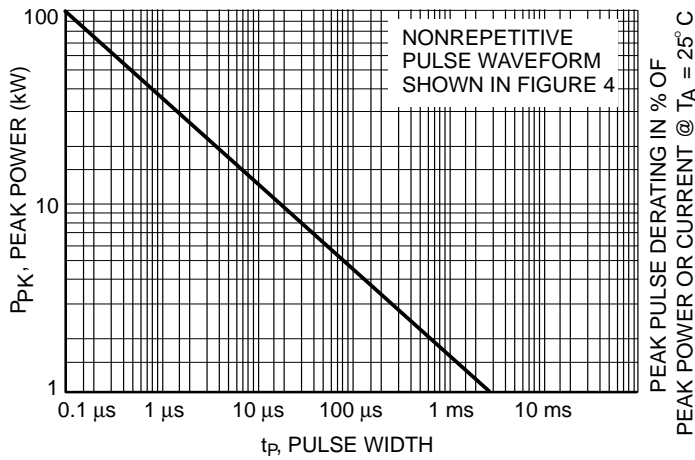
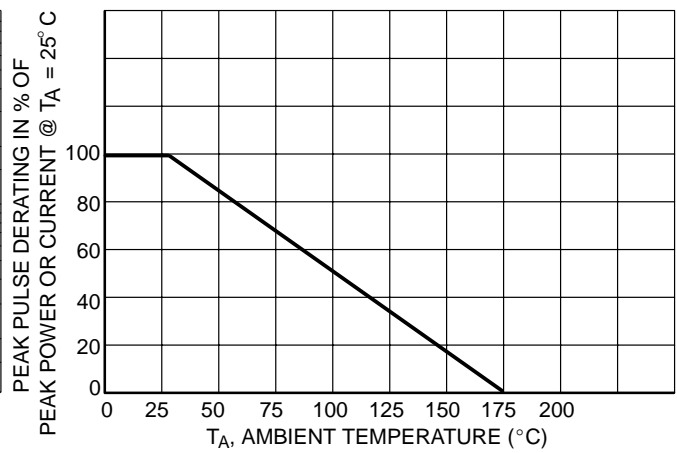
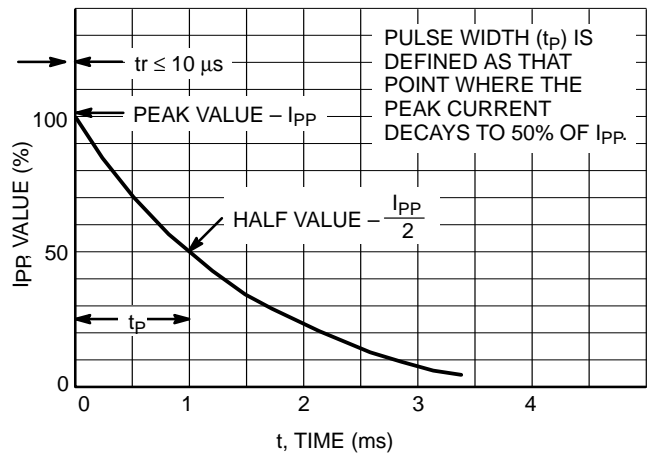
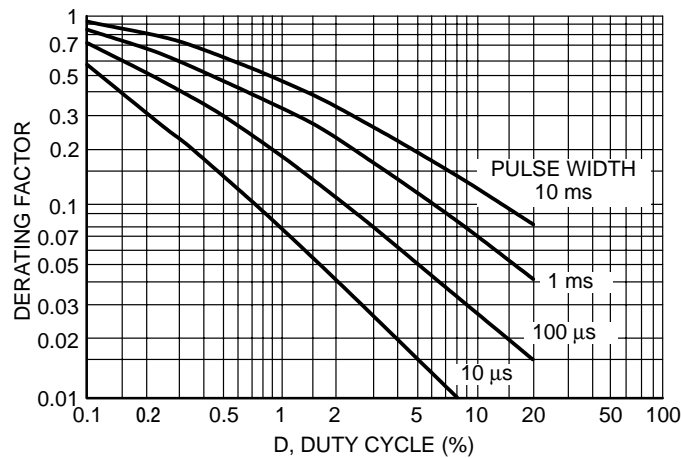

Figure 1. Pulse Rating Curve
Figure 2. Pulse Derating Curve
Figure 4. Pulse Waveform
Figure 6. Typical Derating Factor for Duty Cycle
1. Nonrepetitive current pulse per Figure 4 and derated above $T_A = 25^\circ\text{C}$ per Figure 2.
3. Surge current waveform per Figure 4 and derate per Figures 1 and 2.
The data of Figure 1 applies for non-repetitive conditions and at a lead temperature of 25°C. If the duty cycle increases, the peak power must be reduced as indicated by the curves of Figure 6. Average power must be derated as the lead or ambient temperature rises above 25°C. The average power derating curve normally given on data sheets may be normalized and used for this purpose.
At first glance the derating curves of Figure 6 appear to be in error as the 10 ms pulse has a higher derating factor than the 10 μs pulse. However, when the derating factor for a given pulse of Figure 6 is multiplied by the peak power value of Figure 1 for the same pulse, the results follow the expected trend.